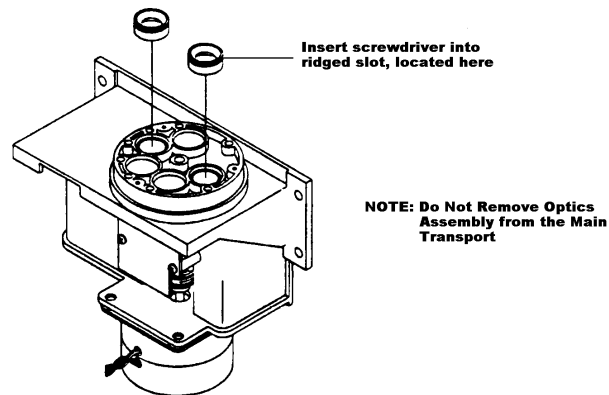

Figure 5-12. Optics Filter Wheel Assembly
9. Gently insert the tip of a small, flat-bladed screwdriver into the ridged slot on the Red or Blue Filter Holder. Gently pry the Filter Holder away from the Filter Wheel Assembly. (See Figure 5-12, Optics Filter Wheel Assembly.) When the Filter Holder is separated from the Filter Wheel, the Red or Blue Filter will be held loosely within the Filter Holder.
10. Gently remove the filters from the Filter Holders and place them on a lint-free tissue. Frequently, a Neutral Density Filter (thin, clear plastic) will accompany the Red Filter. It will be nested between the Red Filter and the Fiber Optic Bundle. If a Neutral Density (ND) Filter is included within the Red Filter Holder. Remove and discard the ND Filter.
9. Gently insert the tip of a small, flat-bladed screwdriver into the ridged slot on the Red or Blue Filter Holder. Gently pry the Filter Holder away from the Filter Wheel Assembly. (See **Figure 5-12**, Optics Filter Wheel Assembly.) When the Filter Holder is separated from the Filter Wheel, the Red or Blue Filter will be held loosely within the Filter Holder.